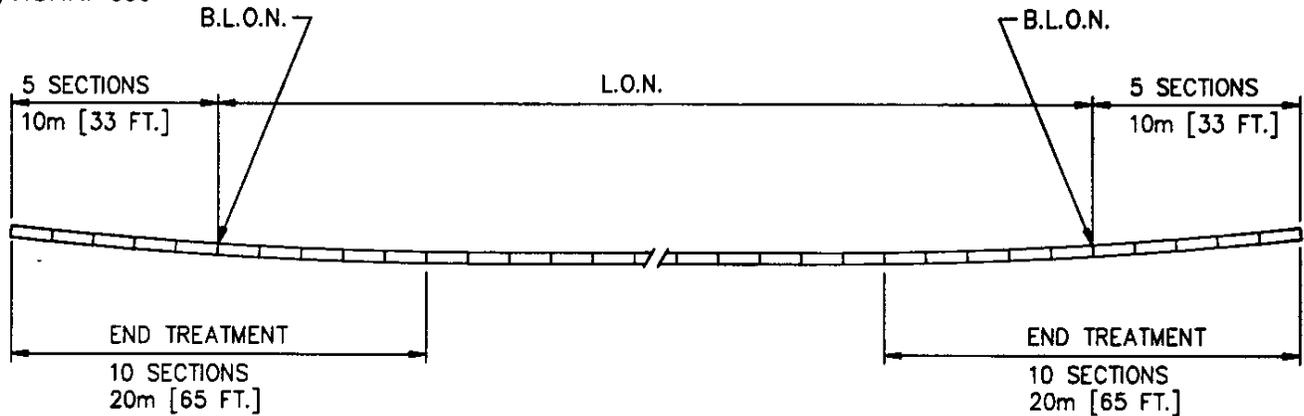

FIGURE 21
Length of need (L.O.N.) is defined as the total length of a longitudinal barrier needed to shield an area of concern (1). It is also described as that part of a longitudinal barrier or terminal designed to contain and redirect an errant vehicle (2). The TRITON BARRIER® end treatment is 20 meters [65 ft.] which is 10 sections long. The Beginning Of Length Of Need (B.L.O.N.) is 10 meters [33 ft.] from the end of the TRITON BARRIER (refer to Figure 21). The minimum length of TRITON BARRIER needed is 30 meters [100 ft.] which is 15 sections of as shown in Figure 22.
(1) AASHTO Roadside Design Guide, 1989
(2) NCHRP 350